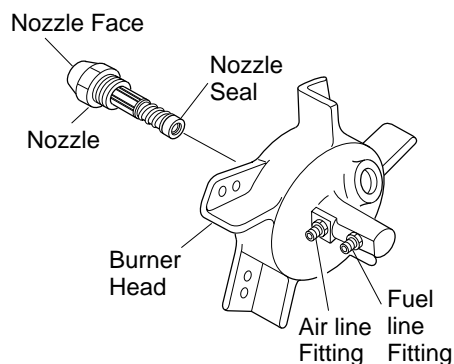

Figure 14 - Removing Nozzle
8. Carefully remove nozzle from burner head using 5/8" socket wrench (see Figure 14).